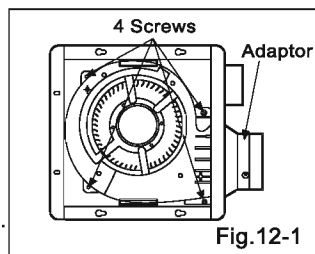

Fig.12-1
1. Loosen 4 screws (but do not remove them from blower). (Fig. 12-1)